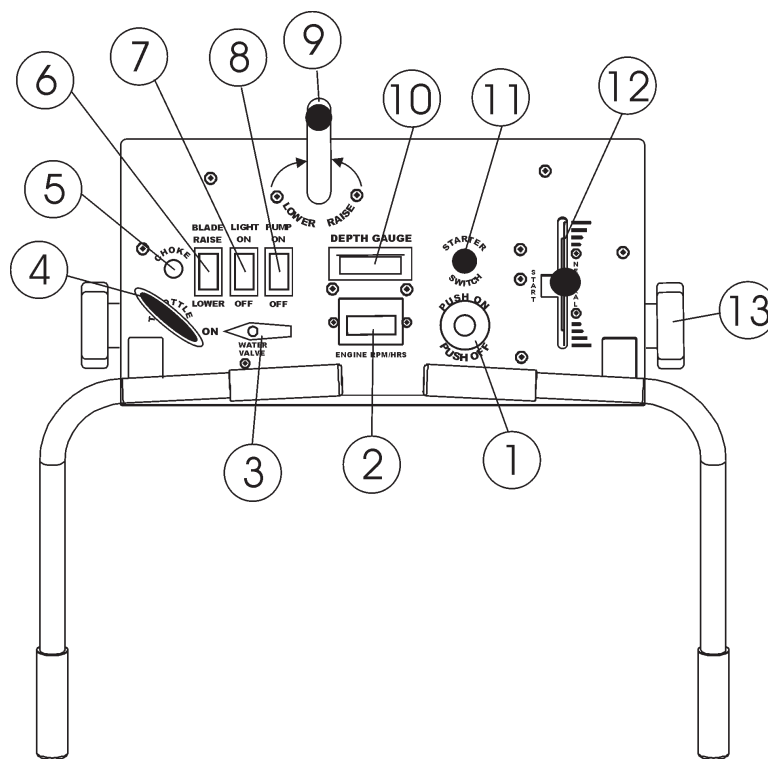

Figure 5. Console Components
Figure 5 displays the location of the various operational control features of the FS3SP saw. Features are dependent on the specific model saw selected. The function of each console component or indicator is explained below:
5. **Electric Starter** – Engine Start is electrically actuated by 12 Volt DC system. Starter button, choke, Throttle Handle, and Engine On/Off Switches are conveniently located on the operating console. (See figure 5)